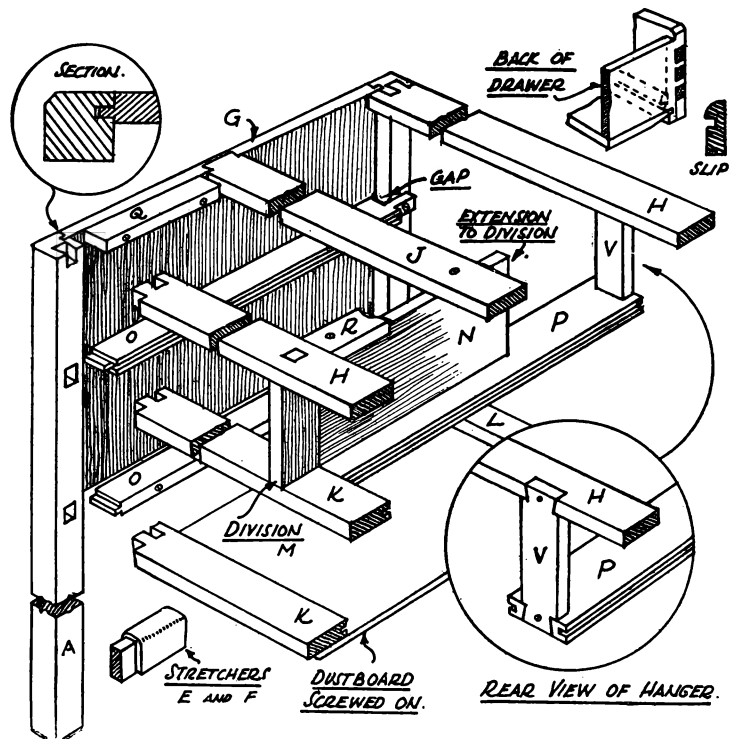

FIG. 3. CUT-AWAY VIEW SHOWING THE VARIOUS JOINTS.
have a wide and narrow shoulder, see inset, Fig. 3. The double shoulder makes it much easier to clamp up. If dowels are used keep the same setting of the gauge for ends and legs when striking the drilling points. If a solid bottom is use, the ends will need rebating along the bottom edge to take it.
Strike off and cut the mortises for the rails (K and L) and dovetail for the top rails (H and J). Before assembly the drawer division (M) must be tenoned to the top and mid-drawer rail, Fig. 3. The extension (N) is doweled to the division (M), being the same width as the drawers.
Assembling.—Assembly is as follows: Tongue and glue the ends and stretcher to the legs. Tenon and glue the drawer division to the rail (K). Tenon and glue the drawer rails, back bottom rail, and stretcher to the legs. Add the top rails (H and J) by dovetailing them down to legs and ends. Add the drawer runners (O and P). The middle ones are grooved for dustboards if these are being fitted. These runners are stub-tenoned to the front rails and slot-screwed to the ends and back leg to allow the ends to shrink at will. Hence a gap must be left where notched around the back leg, Fig. 3.
hanger (V). Fit and screw the drawer division extension (N), Fig. 3.
Drawers.—The drawers can now be fitted before adding the top (W) and the bottom dustboard (Y). Drawers should be dovetailed, the sides being lap-dovetailed to the fronts and through-dovetailed to the drawer backs. Allow about $\frac{1}{8}$ in. on the width of fronts and sides for fitting. Slips are grooved (See Fig. 3) and glued and pinned to the drawer sides to receive the bottoms.